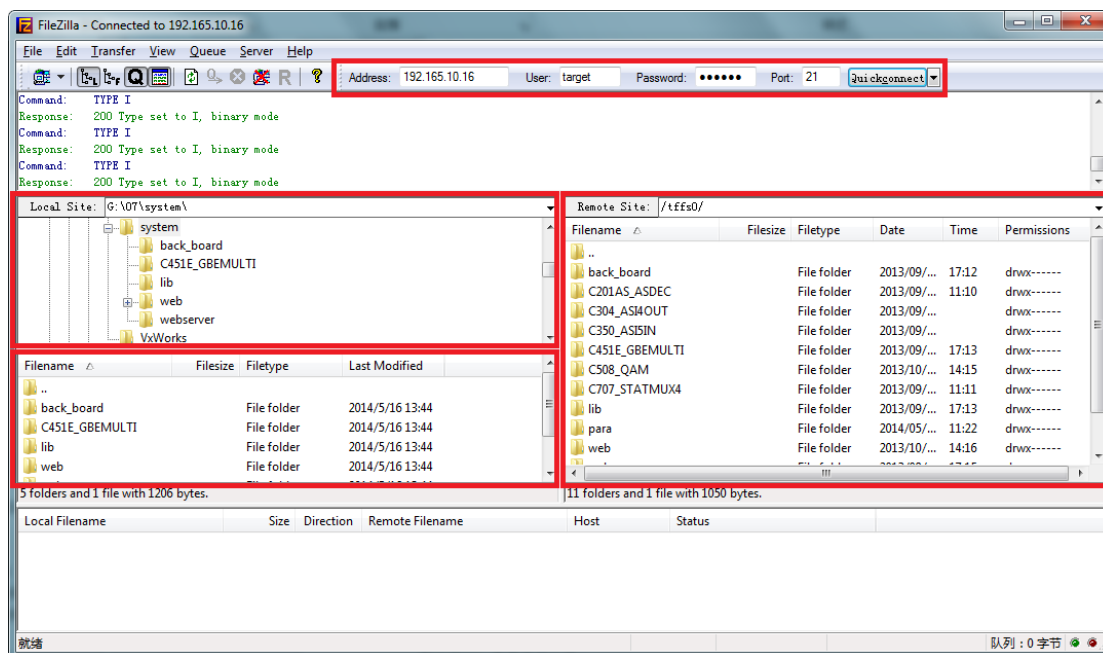

Fig. 9-2 FTP Upload
**Step 2:** Login the device ftp with ftp tool, as show in Fig. 9-2 FTP Upload, empty the original file. To preserve the original parameters, do not delete the files under para folder, and then upload new upgrade files.